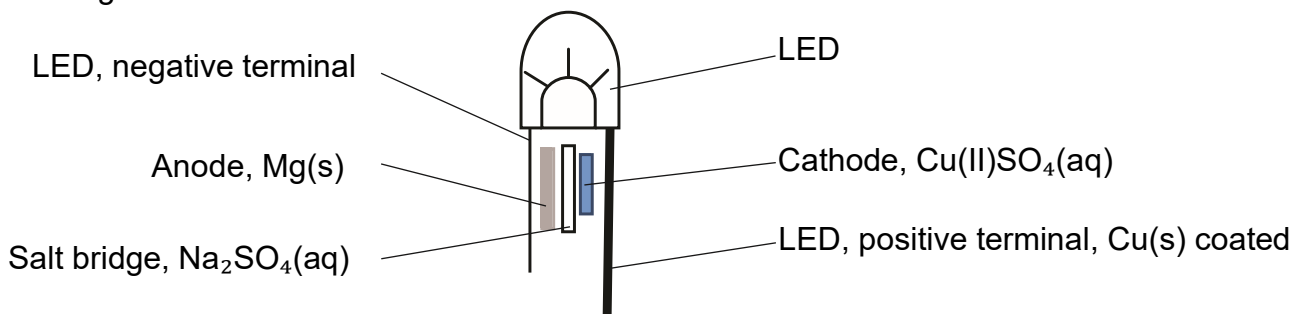

Figure 3. The correct arrangement of the hand-held battery. Squeeze with thumb and index finger on each side of the LED terminals to light the LED.
1. Measure 2 mL, each of the 1 M copper(II) sulfate solution and the 1 M sodium sulfate solution using a 10-mL graduated cylinder. Pour into separate medium sized weigh boats or small beakers (50-mL).
2. Using tweezers, dip the larger (1 cm^2) pre-cut filter paper into the sodium sulfate solution and the smaller ($1/2\text{ cm}^2$) pre-cut filter paper into the copper(II) sulfate solution. Dip long enough to completely coat each filter paper (about 10 seconds).
5. See Figure 3 on how to correctly arrange the components. Lead the students into squeezing the LED between the thumb and index finger for component contact. Add a drop of DI water if necessary, but not too much to drown the battery. Darken the room or cup hand over LED to watch it light.